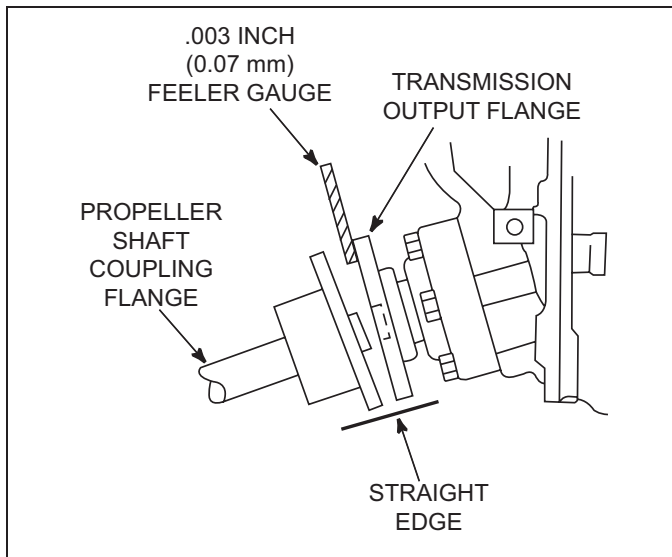

Figure 11-29 Angular Alignment
5. Check for any angular misalignment. Hold coupling faces tightly together by hand and check for a gap between the coupling faces, with a 0.003 in. (0.07 mm) feeler gauge, at 90-degree intervals. (Figure 11-29).